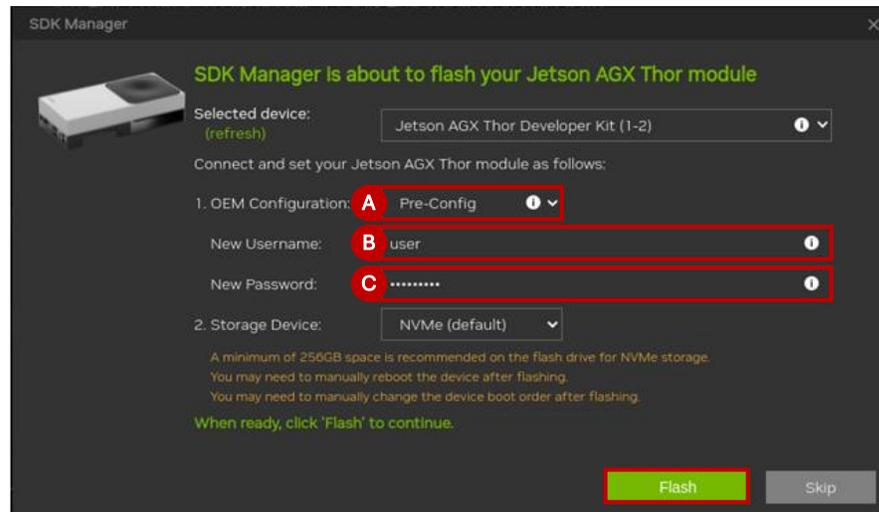

Figure 6.21. Pre-flash Operation Setup
12. In the setup configuration screen, select **Pre-Config** under the OEM Configuration (letter **A**) as shown in Figure 6.21. Enter the desired **username** (letter **B**) and **password** (letter **C**) to create the new user account in AGX Thor. Leave the **Storage Device** setting at its default value. Click **Flash** to begin the flashing process.